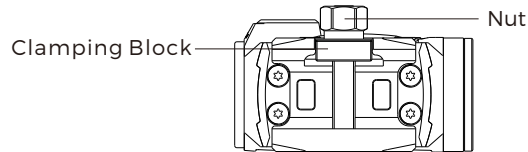

Fig 6
1. Use the included 11mm tool to loosen the clamp screw by rotating counterclockwise. (See Fig 6)